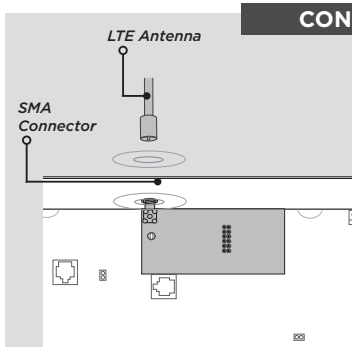

Figure 4: XT30/XT50 Series Panel
2. Connect the 263LTE-FN SMA connector to the included antenna at the hole in the top of the panel. See Figure 4.